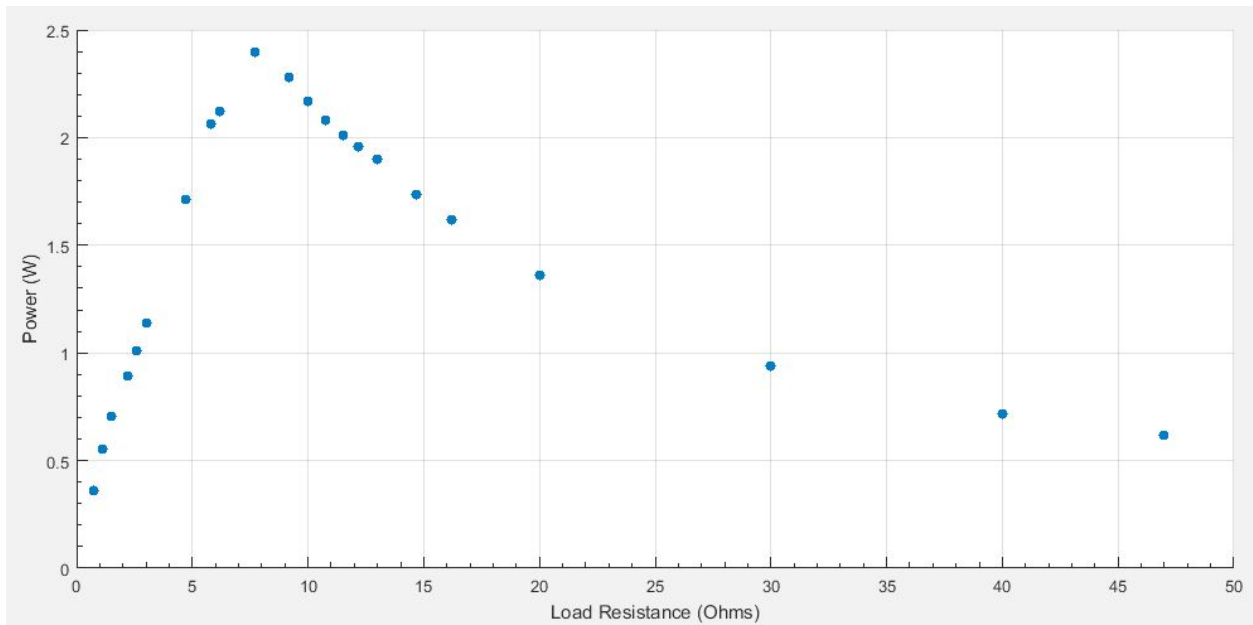

Fig. 3 Power (W) vs. Load Resistance (Ω) for Single Allpower Solar Cell
<p>2. LED must light up when boat is 10m away from remote control</p>	<p>frequency from remote control</p> <ol style="list-style-type: none"> Capture frequency at various distances from antenna (up to 30m) to determine variation in center frequency Choose appropriate capacitors C4, C5 and resistors R3, R4 to implement bandpass filter, shown in Figure 3. <p>2. Verification for item 2:</p> <ol style="list-style-type: none"> Use RF detection circuit, determine signal strength received at 10m Set threshold on microcontroller to that signal strength Check that LED turns on when controller is farther than 10m from boat